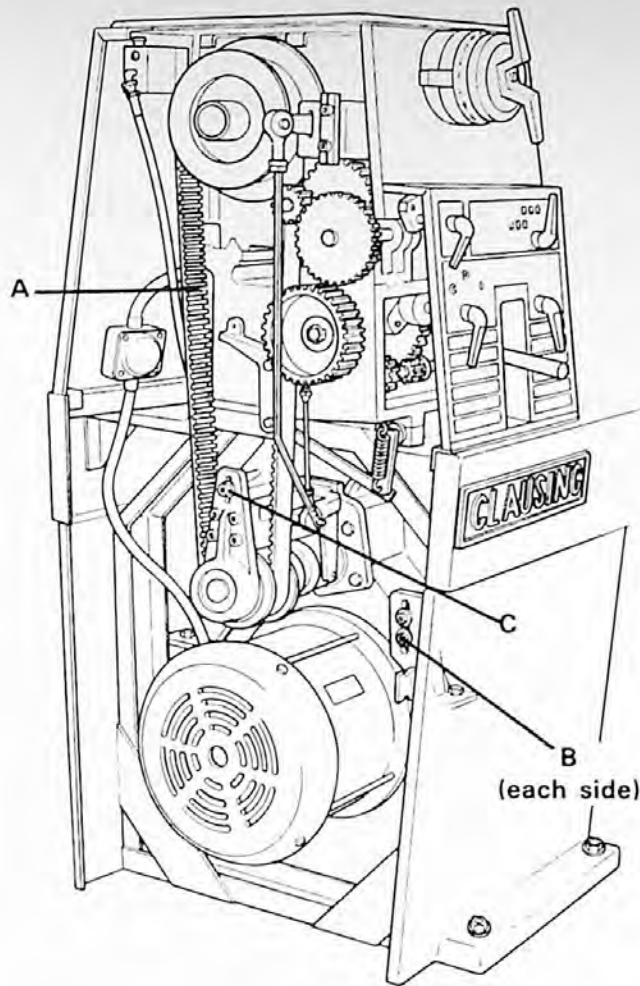

FIGURE 26
2. Loosen capscrew (C, figure 26) in countershaft bracket.
1. Loosen capscrew (C, figure 26) in countershaft bracket.
3. Tighten capscrew (C, figure 26).
3. Place wooden blocking under motor for support as shown in figure 26.
4. Disconnect clutch linkage (A) from clutch shifter.
5. Remove capscrews (B), nuts and washers from motor mounts. Remove capscrew (C) from countershaft bracket.